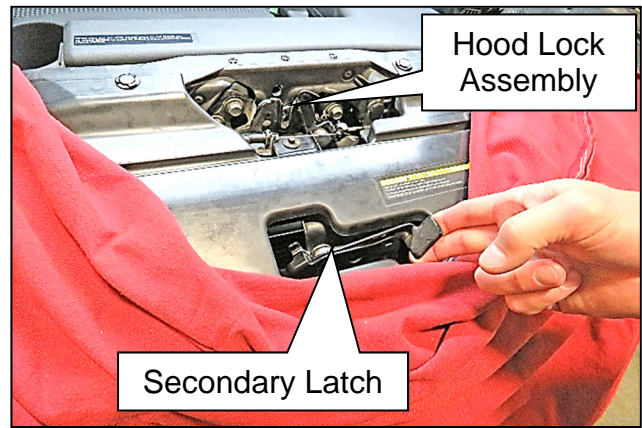

Figure 3
4. Move / cycle the release lever on the Secondary Latch and determine if the Secondary Latch and/or the Hood Lock Assembly is sticking (Figure 3).